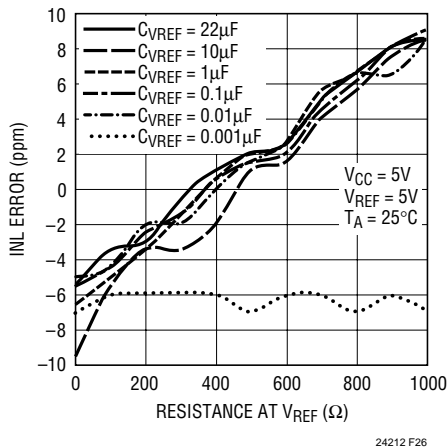

Figure 26. INL Error vs R_{VREF} (Large C)
0.015ppm/Ω independent of capacitance at V_{REF} , see Figure 26.